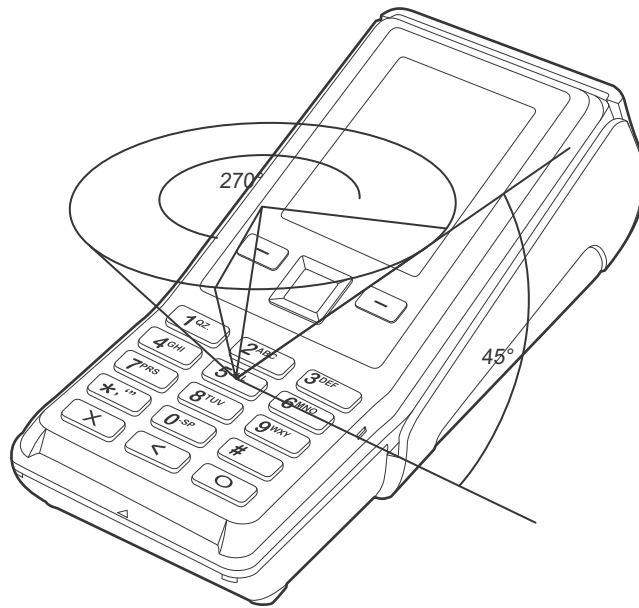

Figure 1 Pin Entry Visibility Area
- The area of visibility should be no larger than a cone taken from the number 5 key at an angle of 45° and covering an area of 270° directly in front of the user, as shown in Figure 1.